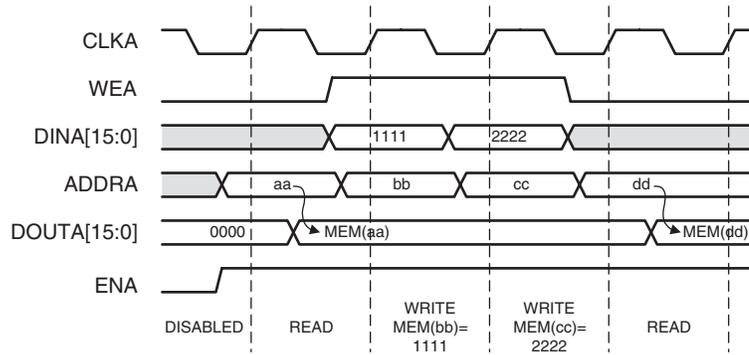

Figure 10: No Change Mode Example
- **No Change Mode:** In NO_CHANGE mode, the output latches remain unchanged during a write operation. As shown in Figure 10, the data output is still the previous read data and is unaffected